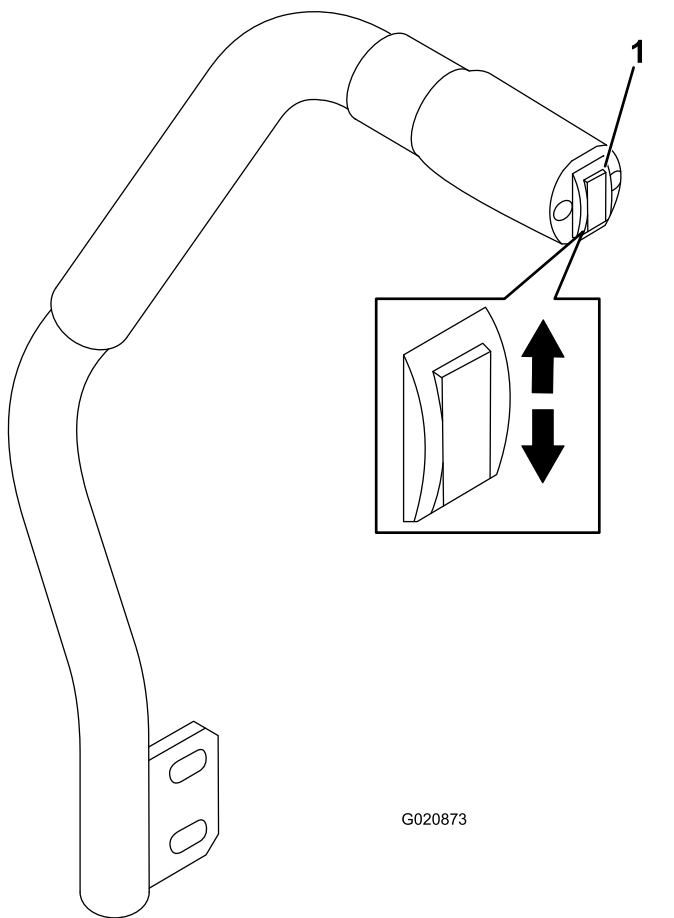

Figure 26
The deck-lift switch raises and lowers the cutting unit (Figure 26). The engine must be running for you to use this lever.
- To lower the cutting unit, push the deck-lift switch down (Figure 26).
- To raise the mower deck, push the deck-lift switch up (Figure 26).